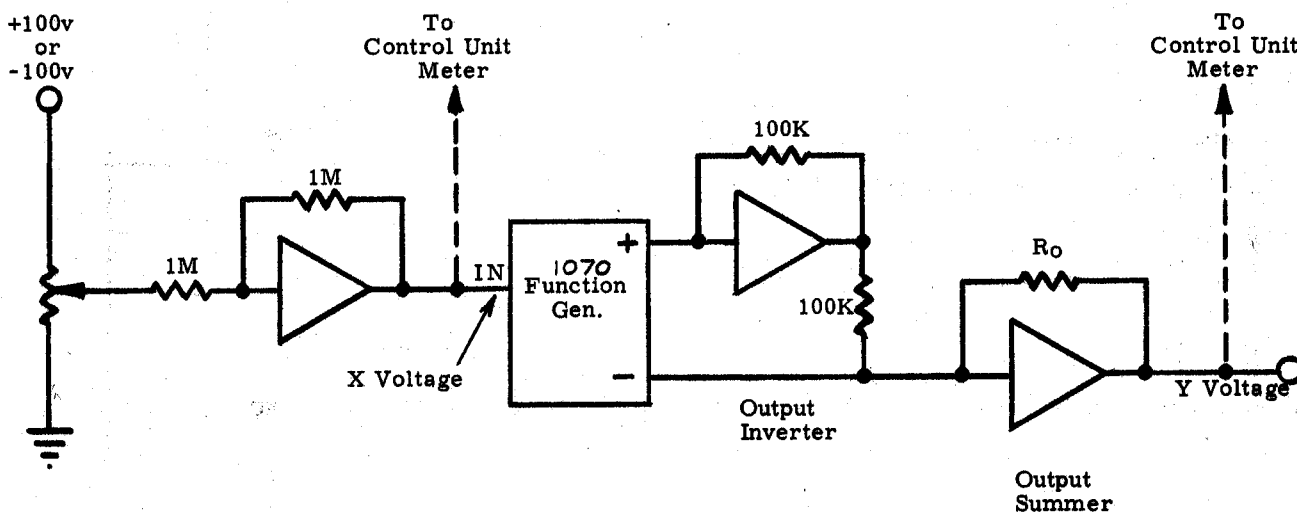

Figure 1
The Model 1070 must be supplemented by two output amplifiers to make up a complete function generator. Connect two amplifiers to the "+" and "-" FUNCTION GENERATOR terminals on the patch board as diagramed in figure 1. So connected, the Y voltage appears at the output of the output summer when the X voltage is introduced at the IN terminal on the patch board.
2. Connect a variable reference voltage source to the IN terminal as shown in figure 1.